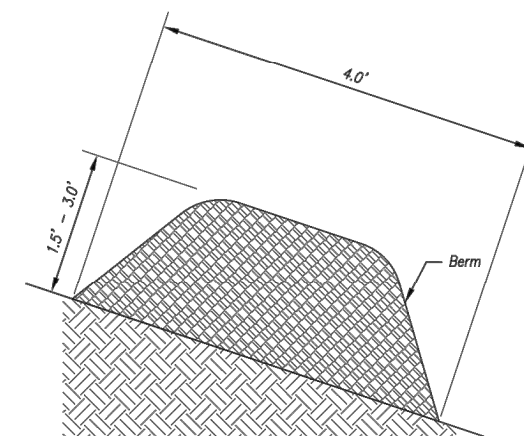

Figure 2 (Steep Slopes)
2. Parallel to the base of the slope, or around the perimeter of other affected areas, construct a 1 to 3 foot high by 2.5 to 3 foot wide berm (see Figure 1). For maximum water treatment ability or for steep slopes, construct a 1.5 to 3 foot high trapezoidal berm that is a minimum of 4 feet wide at the base (see Figure 2). In extreme conditions, or where specified by the engineer, a second berm shall be constructed at the top of the slope. Engineer will specify berm requirements.